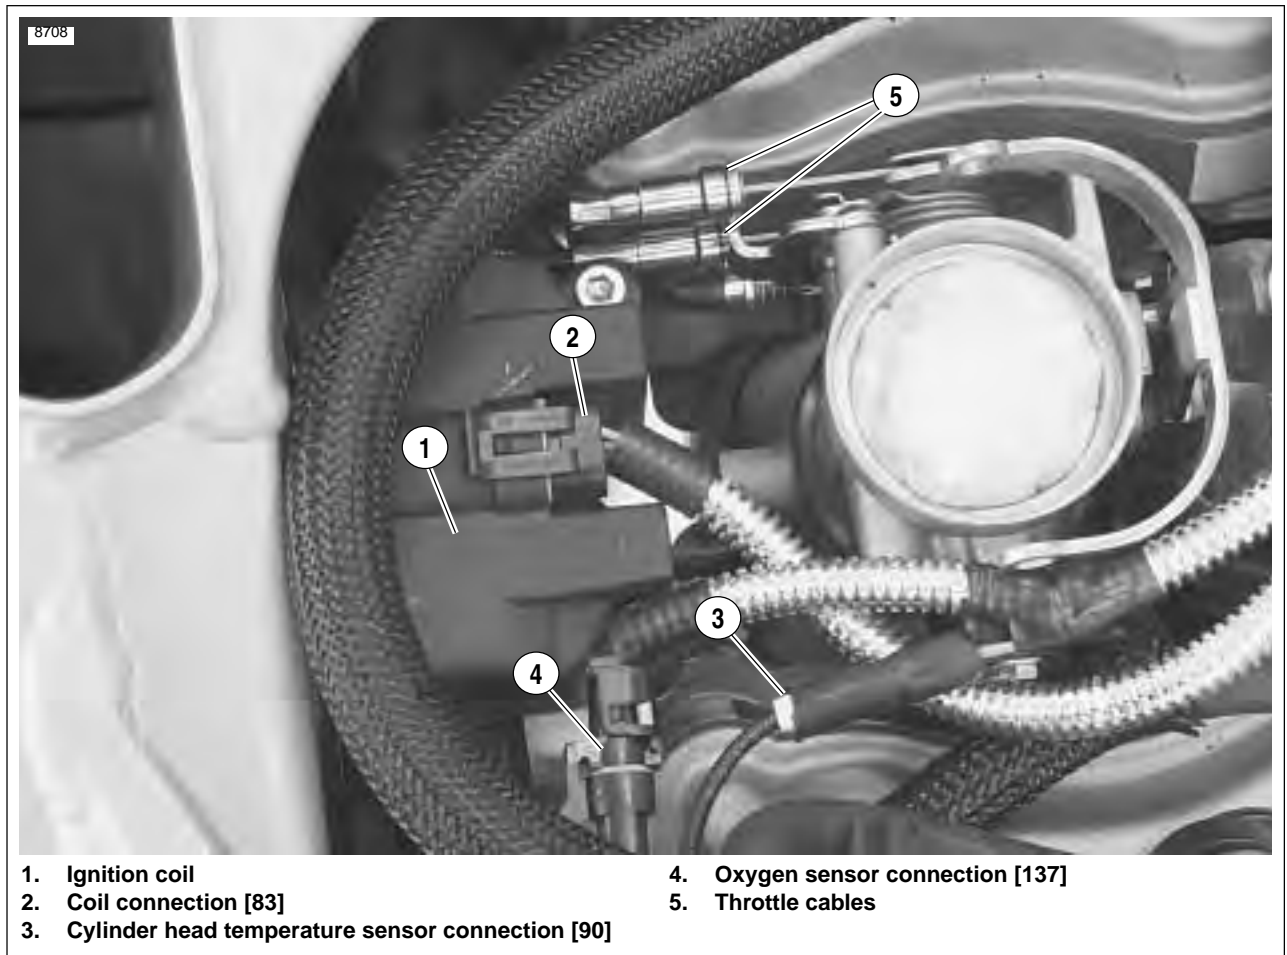

Figure 3-60. Electrical Connections and Throttle Cables
40. See Figure 3-60. Connect throttle cables to induction module/throttle body.
42. See Figure 3-60. Install the ignition coil and spark plug wires and connect [83]. Tighten ignition coil fasteners to 120-144 **in-lbs** (13.6-16.3 Nm).